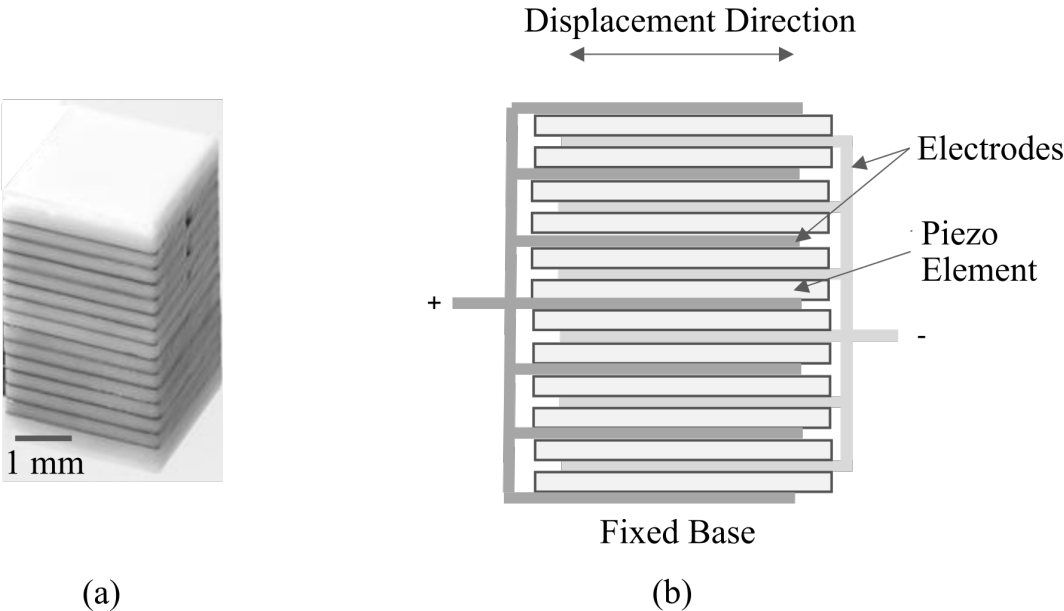

Fig. 3
- (c) Figure 3(a) shows a commercially available piezoelectric actuator which consists of a stack of ferroelectric layers with an electrode between each layer. Figure 3(b) shows how the electrodes are connected. When an electric field is applied to the stack with the bottom face fixed in place, the top layer of the stack moves sideways by a distance which depends on the applied voltage. Each of the twelve piezo elements is square with sides of 3 mm and a thickness of 0.5 mm. The manufacturer specifies a maximum service voltage of +/- 250 V, which provides a sideways displacement of the top plate of +/- 1.5  $\mu\text{m}$  with respect to the bottom plate. The capacitance of each element is 0.125 nF.